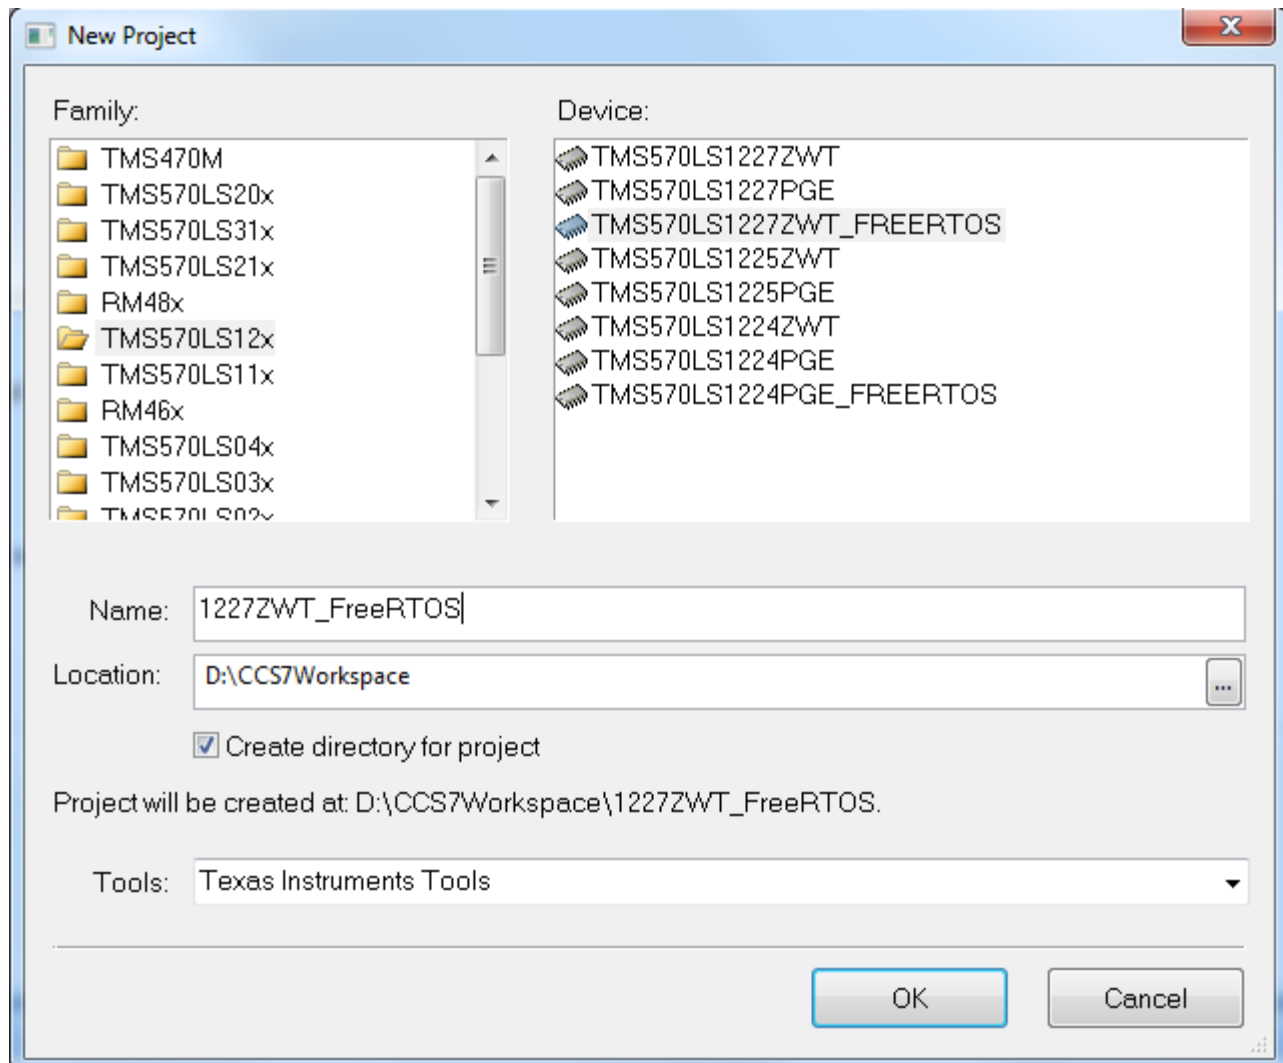

Figure 3. Create a HALCoGen Project
1. Create a HALCoGen project with TMS570LS1227ZWT_FREERTOS, as shown in Figure 3.